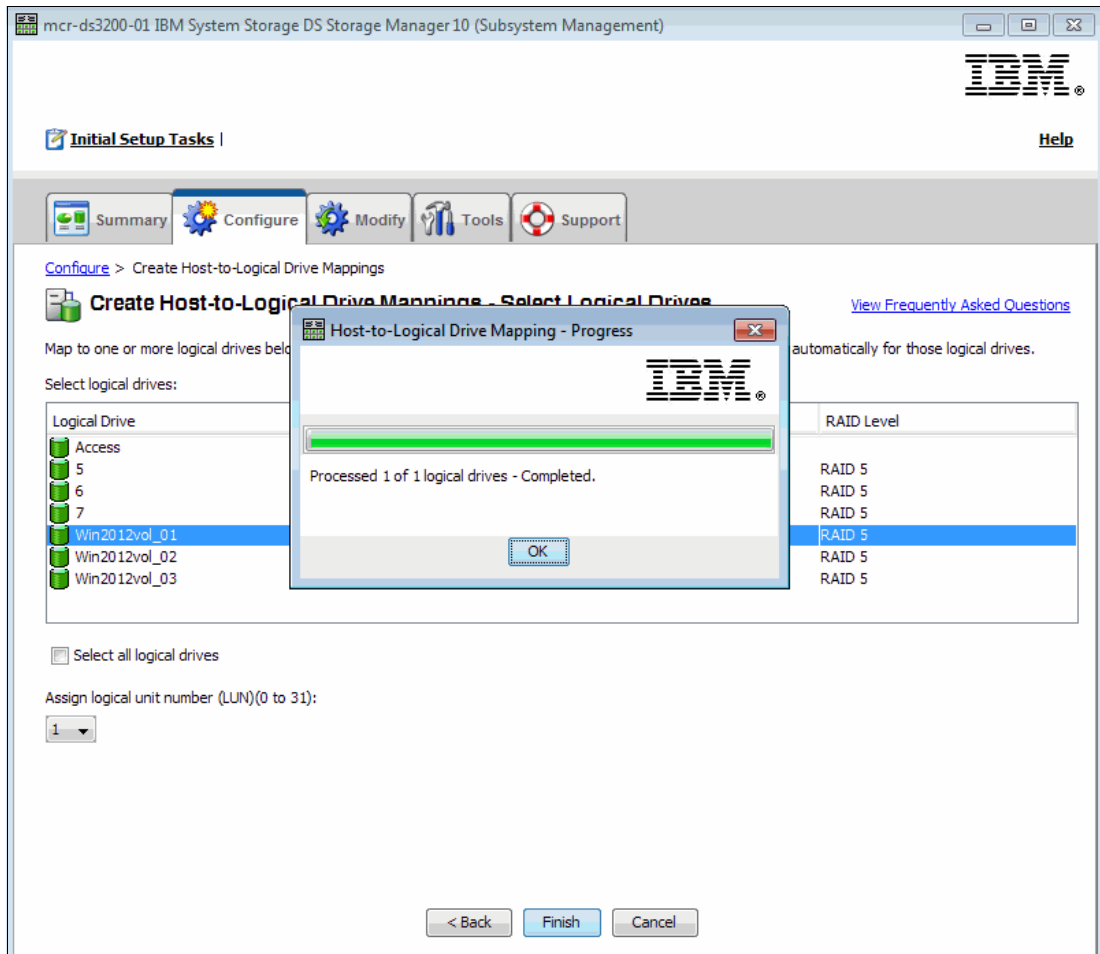

Figure 6-40 Mapping complete: IBM DS3200
6. A confirmation box opens to show that the mapping has been created, as shown in Figure 6-40.